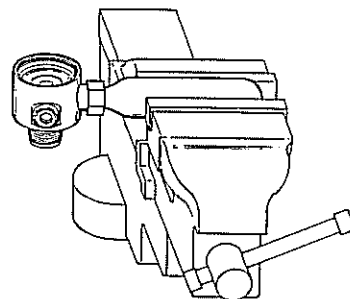

FIGURE 4
1. Screw an empty CO₂ cartridge, clockwise into a low-pressure adapter (Item 52). Then screw the adapter and cartridge clockwise into one of the low-pressure ports on the first-stage body (Item 1). Mount the first-stage body in a bench vise, main-spring side facing upward, by means of the CO₂ cartridge. (See Figure 4)